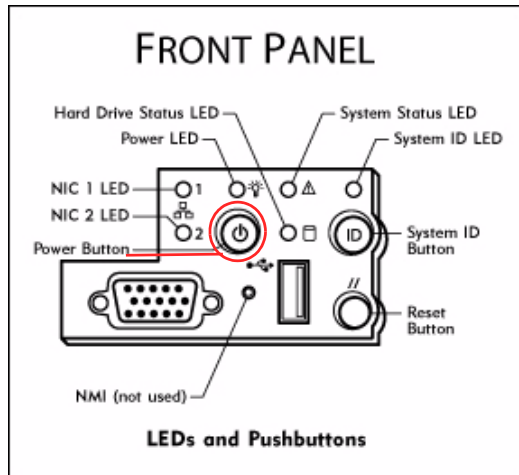

FIGURE 4-12 Power Button and Front Panel Detail
8. Power on the server H1 (serial number ending in “-H1”) by pressing the Power button (FIGURE 4-12) on the front panel (behind the faceplate).